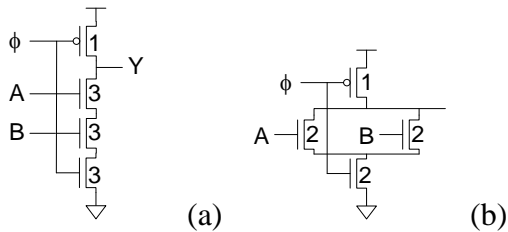

Fig. 1
- Consider the dynamic logics as shown in Fig. 1 (10%)